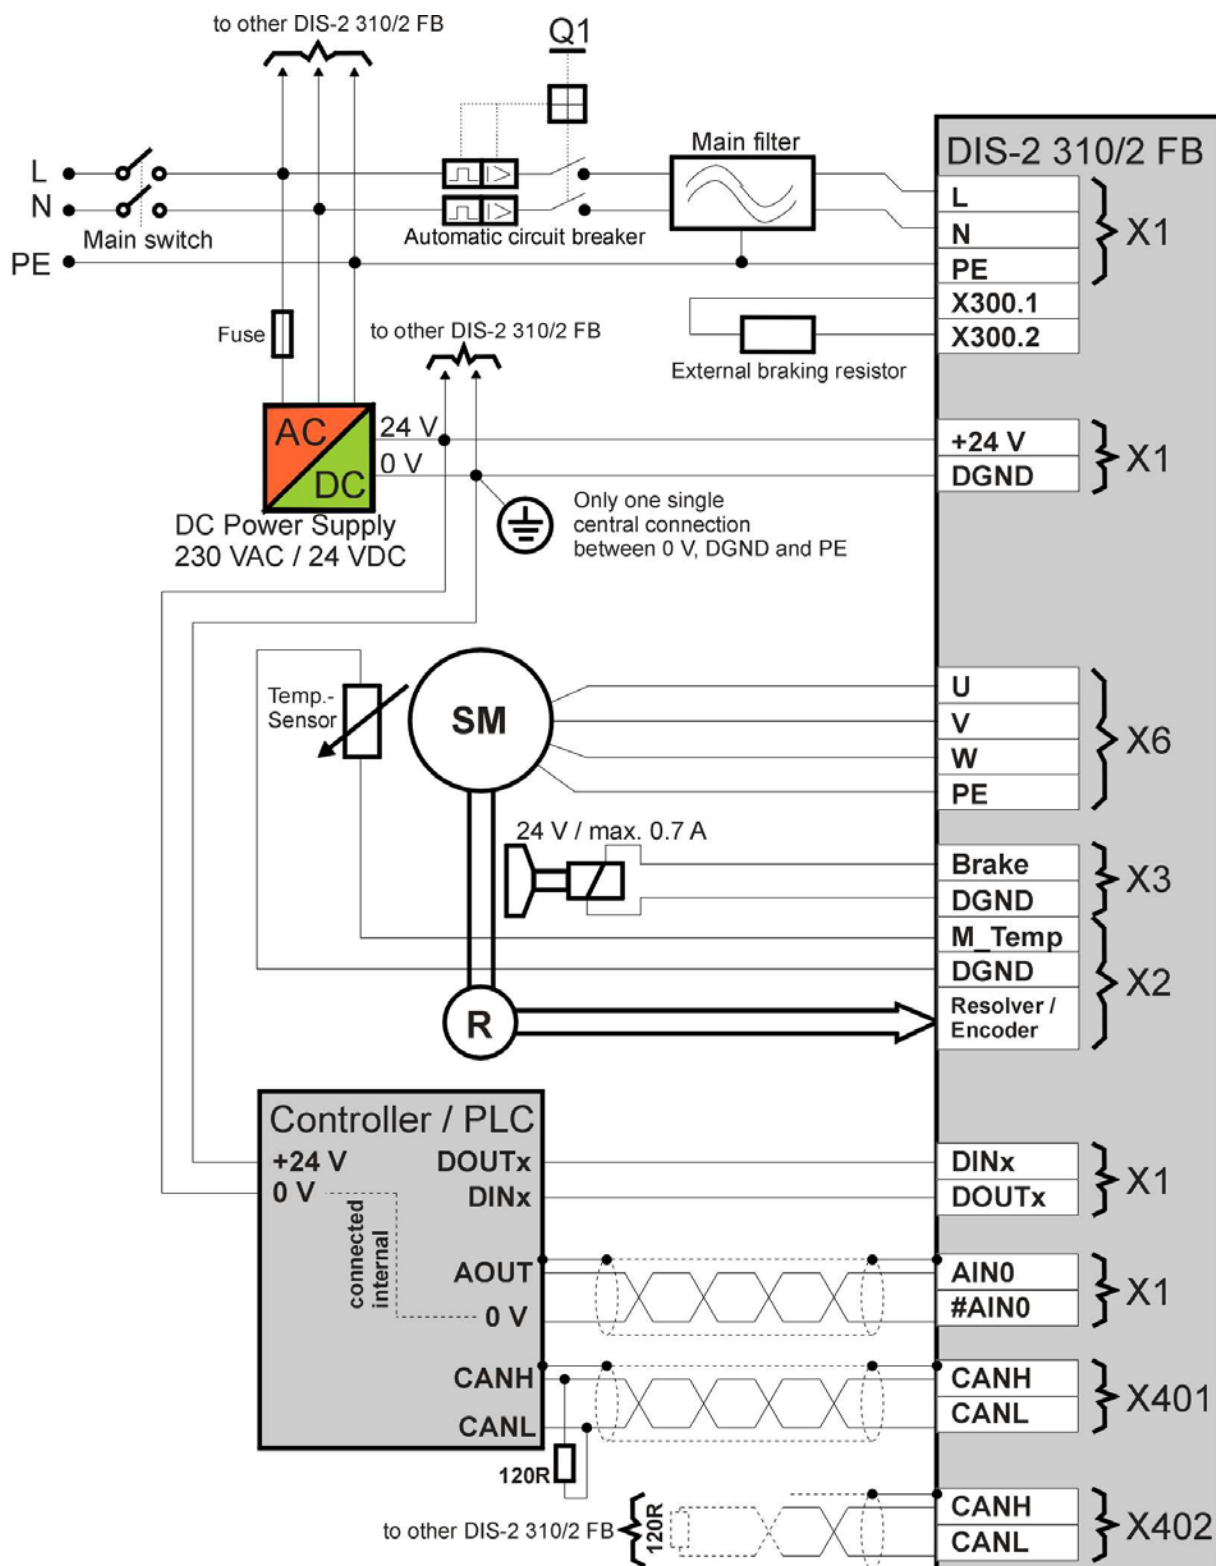

Figure 5: Connection to power supply, PLC and motor
Figure 5 shows a typical application with one or more DIS-2 310/2 FB connected to the 230 VAC power supply, to the 24V logic supply (1 A per device is used) to the holding brake and to the controller or a PLC. An emergency stop circuit is not shown, but will be necessary in practice!
- ❖ To connect multiple DIS-2 310/2 FB to one 24 VDC power supply use a star wiring technique as shown in **Figure 5**. The star point of the reference GND potential should be located as close to the power supply as possible.